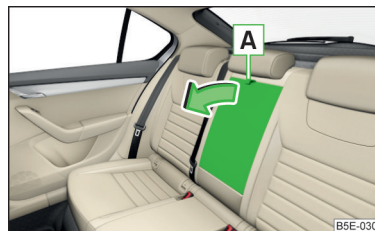

Fig. 74
► Pull on the loop **A** » Fig. 74 and fold the armrest forward in the direction of the arrow.